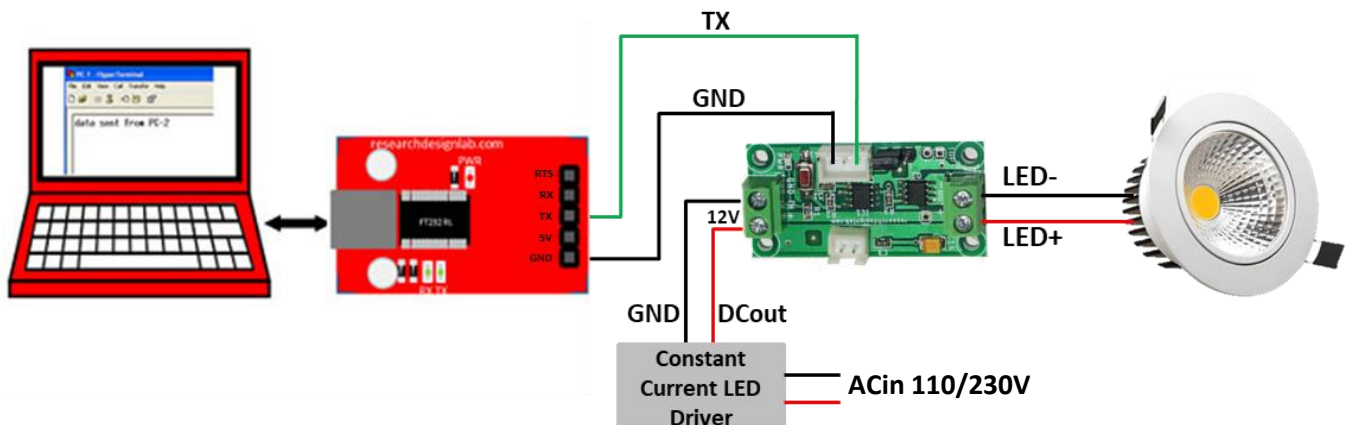

Fig. 5
PC to PC communication is possible with LiFi Nano V2 transmitter and receiver module. Data is sent from one PC to LiFi transmitter and the same data is received in another PC from LiFi receiver. An example of this application circuit connection along with the code is shown in the following section. Fig. 5 shows the LiFi Nano transmitter connection.
- Please refer Fig. 5 and Fig. 6 for hardware connection.